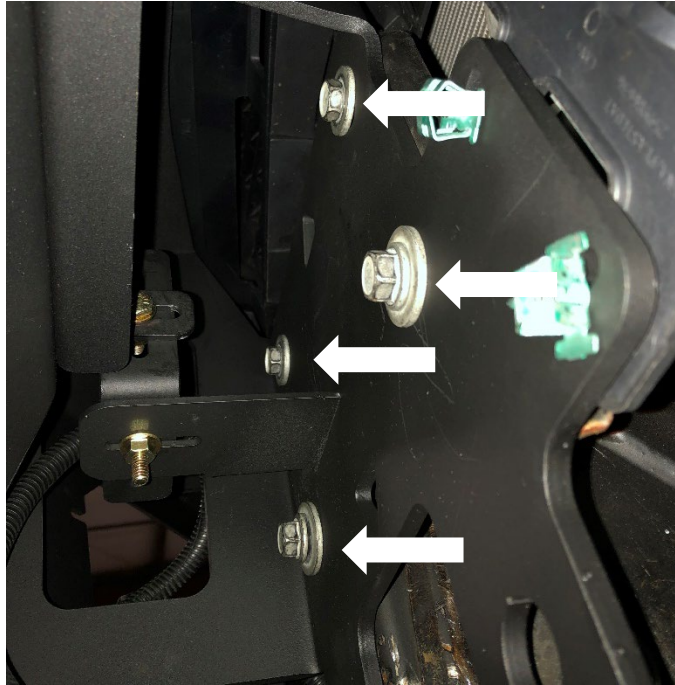

Figure 27
25. With assistance, hold the Warn bumper up to the frame horns and attach it using the eight (8) OEM bolts from step 13 and a 15mm socket wrench. (Figure 27)